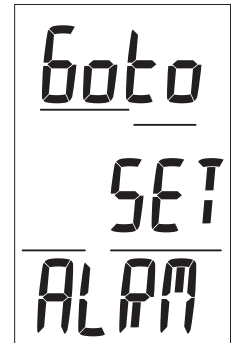

Fig. 19 - Set ALARMS LEAD-IN
**Set Alarms Lead-in**, information includes (Fig. 19):